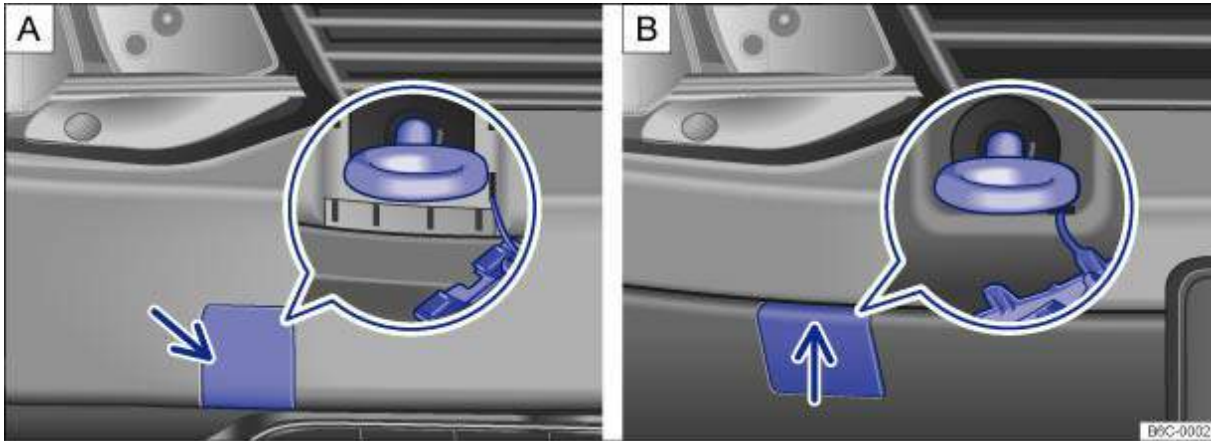
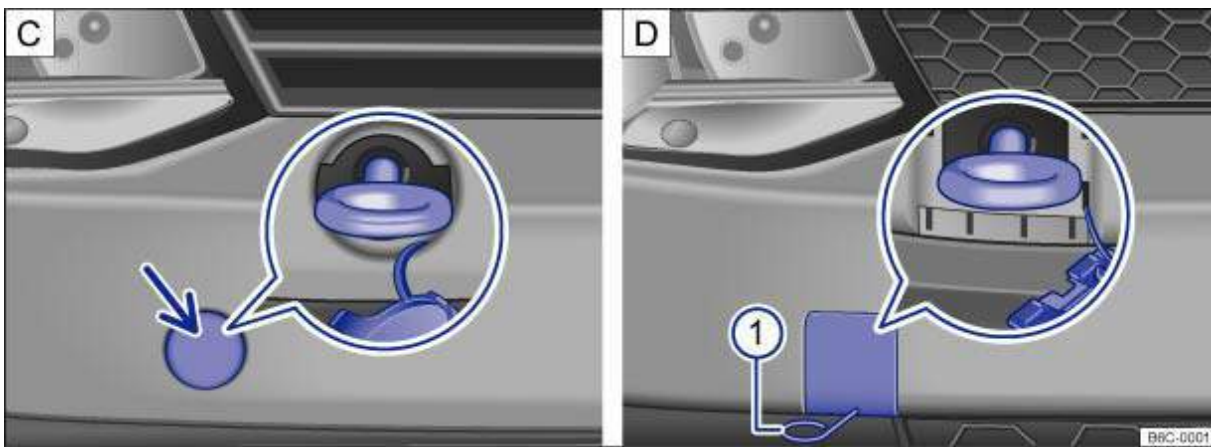

Fig. 226 In the front bumper, right-hand side: A: screwing in the towing eye (variant 1), B: screwing in the towing eye (variant 2)
Fig. 227 In the front bumper, right-hand side: C: screwing in the towing eye (variant 3), D: screwing in the towing eye (variant 4)
The towing eye is screwed into a threaded hole behind a cover on the right-hand side of the front bumper → *Fig. 226* or → *Fig. 227*.
- Press on the left edge of the cover → *Fig. 226 A* (arrow).
- Press the top edge of the cover → *Fig. 226 B* (arrow).
- Press on the left edge of the cover → *Fig. 227 C* (arrow).
- Insert the wire hook in the recess → *Fig. 227* ⓓ.
- Turn the towing eye **anticlockwise** into the threaded hole and tighten as far as possible → *Fig. 226 I* → *Fig. 227* (close-ups) → ⓓ. Use the box spanner, or other suitable object, to screw the towing eye fully and securely into the mounting.